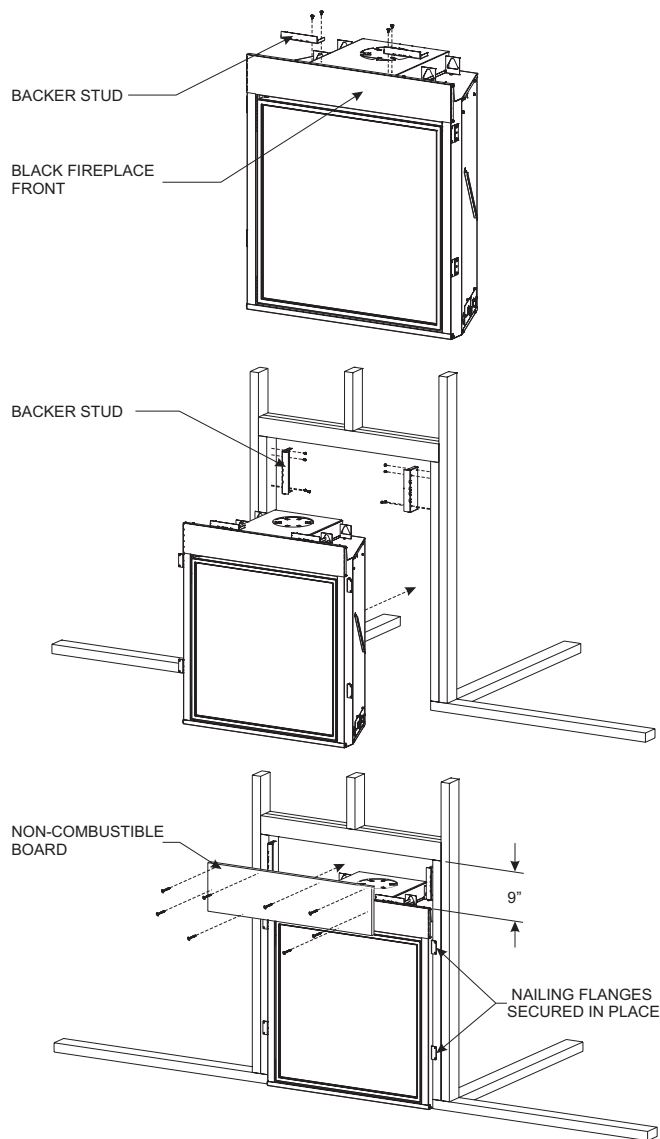

Figure 35
NOTICE: For finishing to top of fireplace, refer to **Figure 35**.
8. Attach the two backer studs to the firebox with four #10 x 1/2 Phillips screws (provided) as shown in **Figure 35**.
9. Attach the two backer studs to the vertical studs with four screws appropriate for installation (not provided) as shown **Figure 35**.
11. Mark non-combustible board for backer stud locations. Position the non-combustible board and secure with four #8 x 1 self-drilling drywall screws (provided) as shown in **Figure 35**. Four screws appropriate for installation (not provided) screw into the header. **See Figure 35**. To avoid damage to the non-combustible board, do not use more screws.